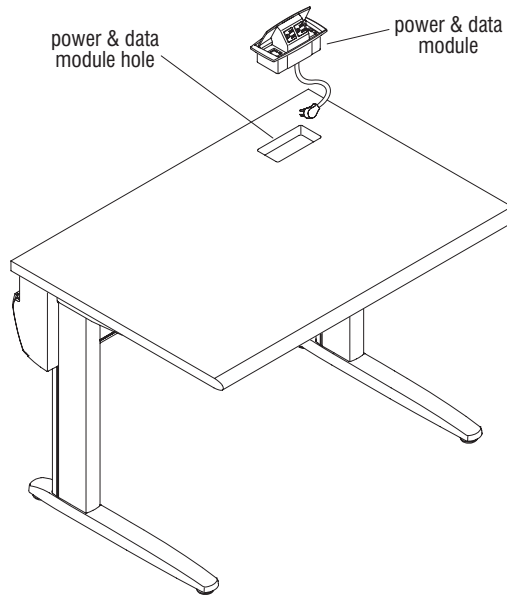

Figure 13
2. With the power and data module in hand, route the power cord through the power and data module hole in the top of the worksurface. Press the module down into the module hole to secure (Figure 13).